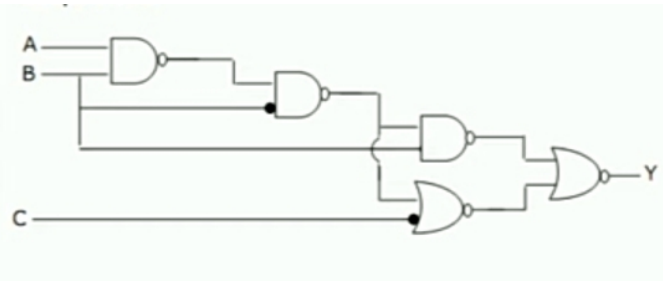

Fig. 3.4
12. For the logic circuit shown in Fig. 3.4, find the simplified Boolean expression for the output. (GATE EC 2000)